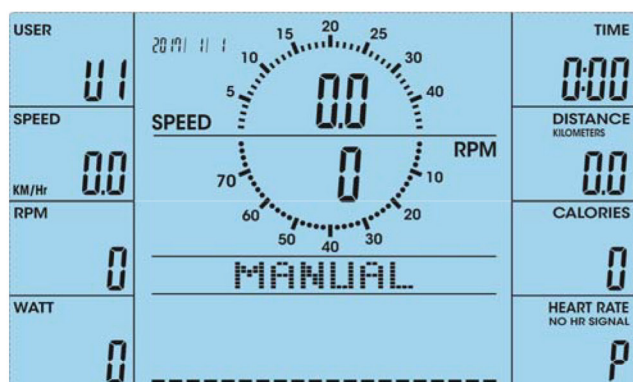

Fig. 16
4. Choose the MANUAL mode and confirm with ENTER (fig. 16).